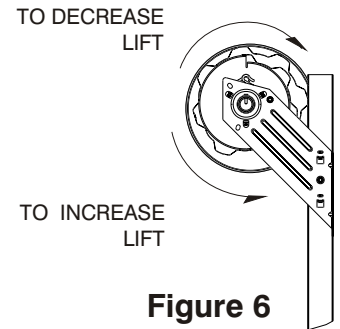

Figure 6
- D. Carefully unbolt spring from the headplate. Rotate curtain in order to line spring hook up with next available hole in headplate. See Figure 6 to determine direction of rotation.